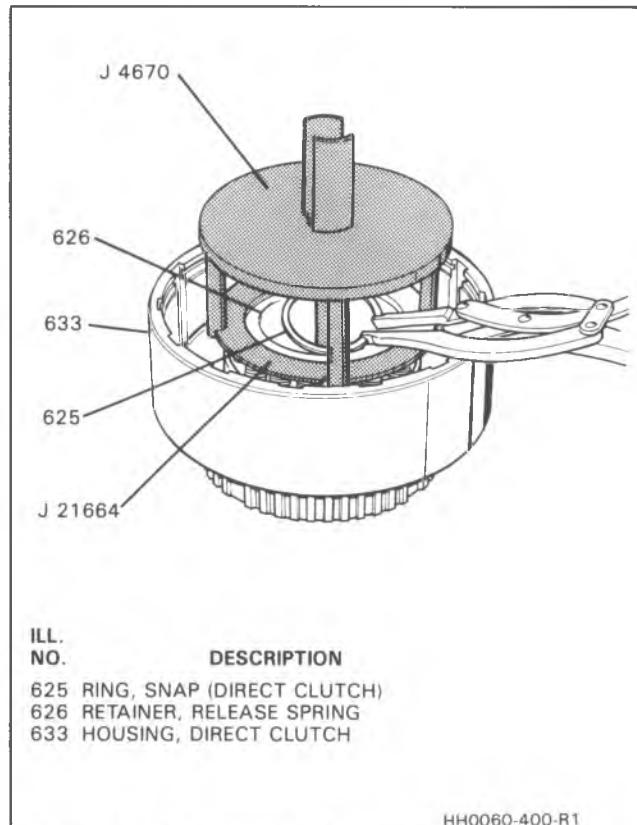

Figure 52 - Disassembly of Direct Clutch Housing
Disassemble (Figures 52 and 53)
1. Snap ring (638) and clutch retainer (637).
2. Race (636) and roller assembly (634) (or sprag assembly 635).
3. Snap ring (619).
4. Direct clutch backing plate (620) and clutch plates (621 and 622).
5. Snap ring (625) with J 4670 and J 21664.
6. Retainer (626) and clutch release springs (627).
7. Piston (629).
8. Inner seal (630) and outer seal (631) from piston (629).
9. Center piston seal (632) from housing (633).
**Inspect (Figure 52)**
- Roller assembly (634) for damaged rollers, cage or distorted springs.
- Clutch housing (633) for cracks, wear and proper opening of oil passages.